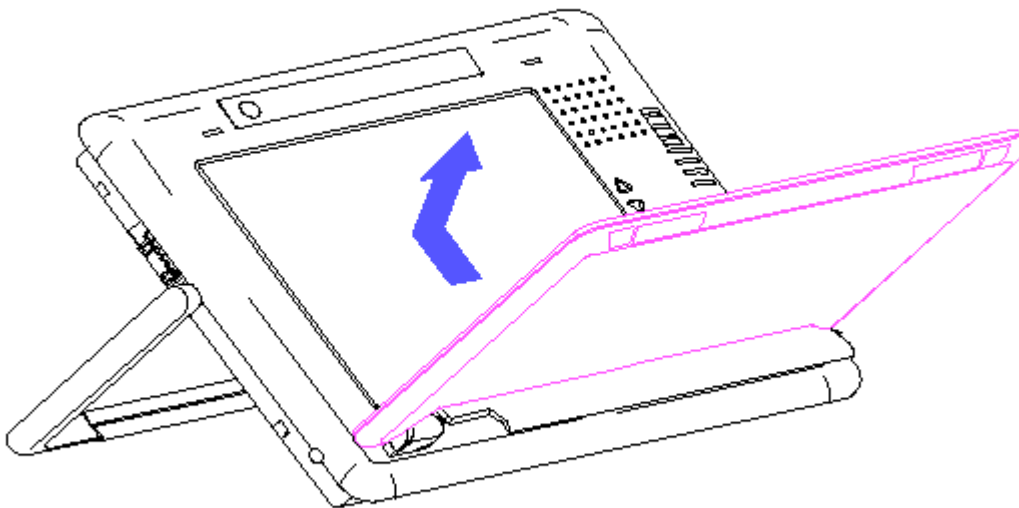

Figure 3-5. Releasing the Keyboard
- d. Pivot the keyboard on its hinges to a position that is perpendicular to the display (Figure 3-5).
- e. While maintaining the perpendicular orientation, slide the keyboard toward the top of the display and pull it away from the computer (Figure 3-5).